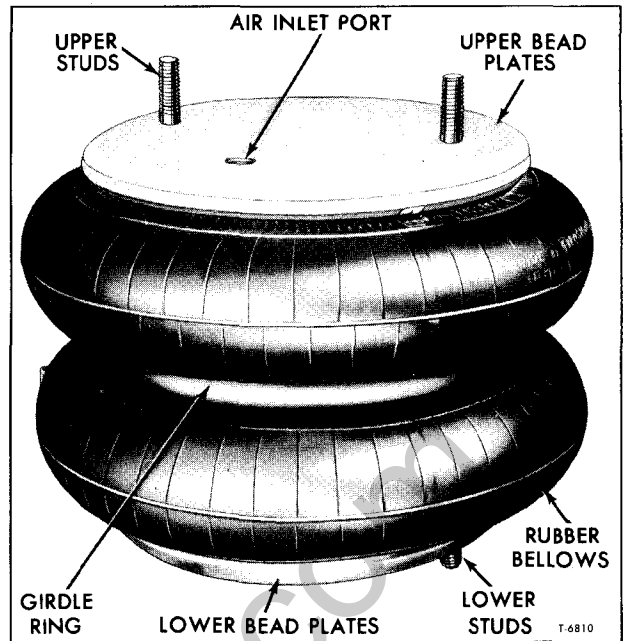

Figure 2—Air Bellows Components
a. Measure distance from rear horizontal center of front outside wheel rim as shown in figure 2 to a similar point at front of rim of rear outside wheel.
An air bellows is mounted between each control arm and frame support bracket. The bellows assembly consists of the upper and lower bead plates, girdle hoop, air spring rubber section, and built in height bumper (fig. 2).
The air suspension system requires little maintenance other than routine test and inspection. Inspection and test procedures should be performed at established chassis inspection periods. Components of suspension are shown in figure 2.